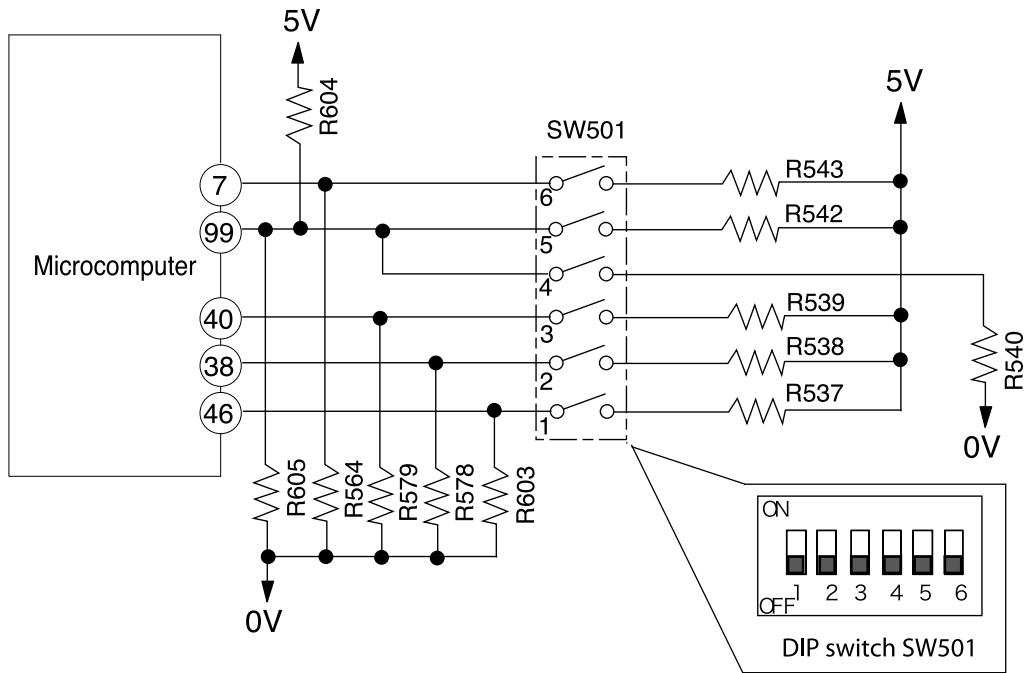

Fig.12-1 Dip switch Circuit
- Fig. 12-1 shows the dip switch circuit; the table shown in Fig. 12-2 are function and setting position from ① – ⑥ of the switch no.